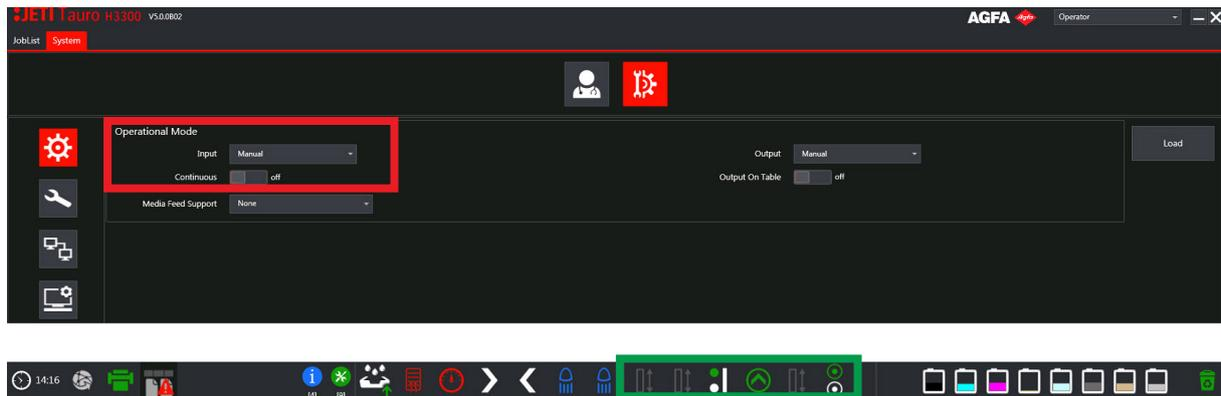
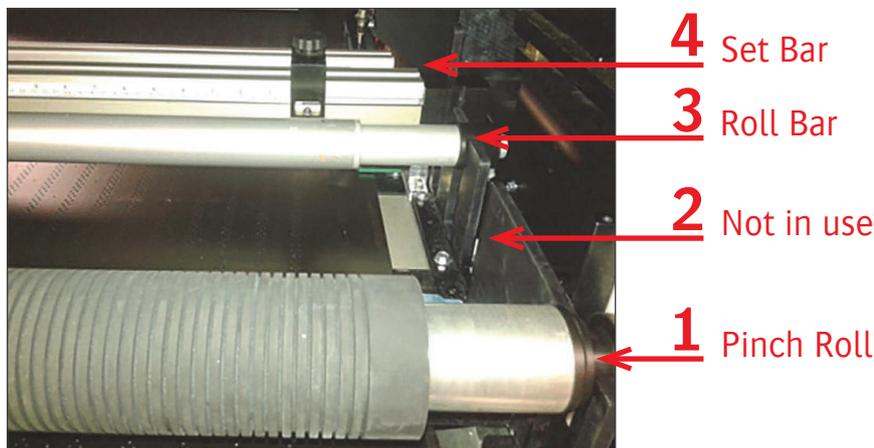

Fig.5-6: GUI - Manual Mode
Fig.5-7: Manual Mode Configuration
Select the Manual mode from the GUI (outlined in red in Fig.5-6).
- Place the roll bar in slot 3 and the set bar in slot 4. In Manual mode, there is always a pinch roll in slot 1, which is not in use in this mode, and slot 2 is free (see detail in Fig.5-7 and outlined in green in Fig.5-6).